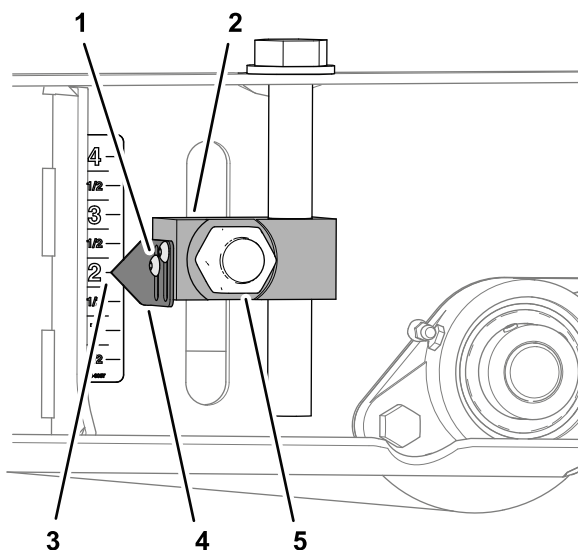

Figure 84
6. Loosen the socket-head screws that secure the 2 pointers to the height-of-cut adjuster block, align the pointers to the 2 inch mark on the decal, and tighten the screws (Figure 84).
7. Torque the 4 nuts that secure the 4 height-of-cut adjuster blocks (Figure 82 and Figure 84) for the front and rear rollers to 322 to 396 N·m (238 to 292 ft-lb).